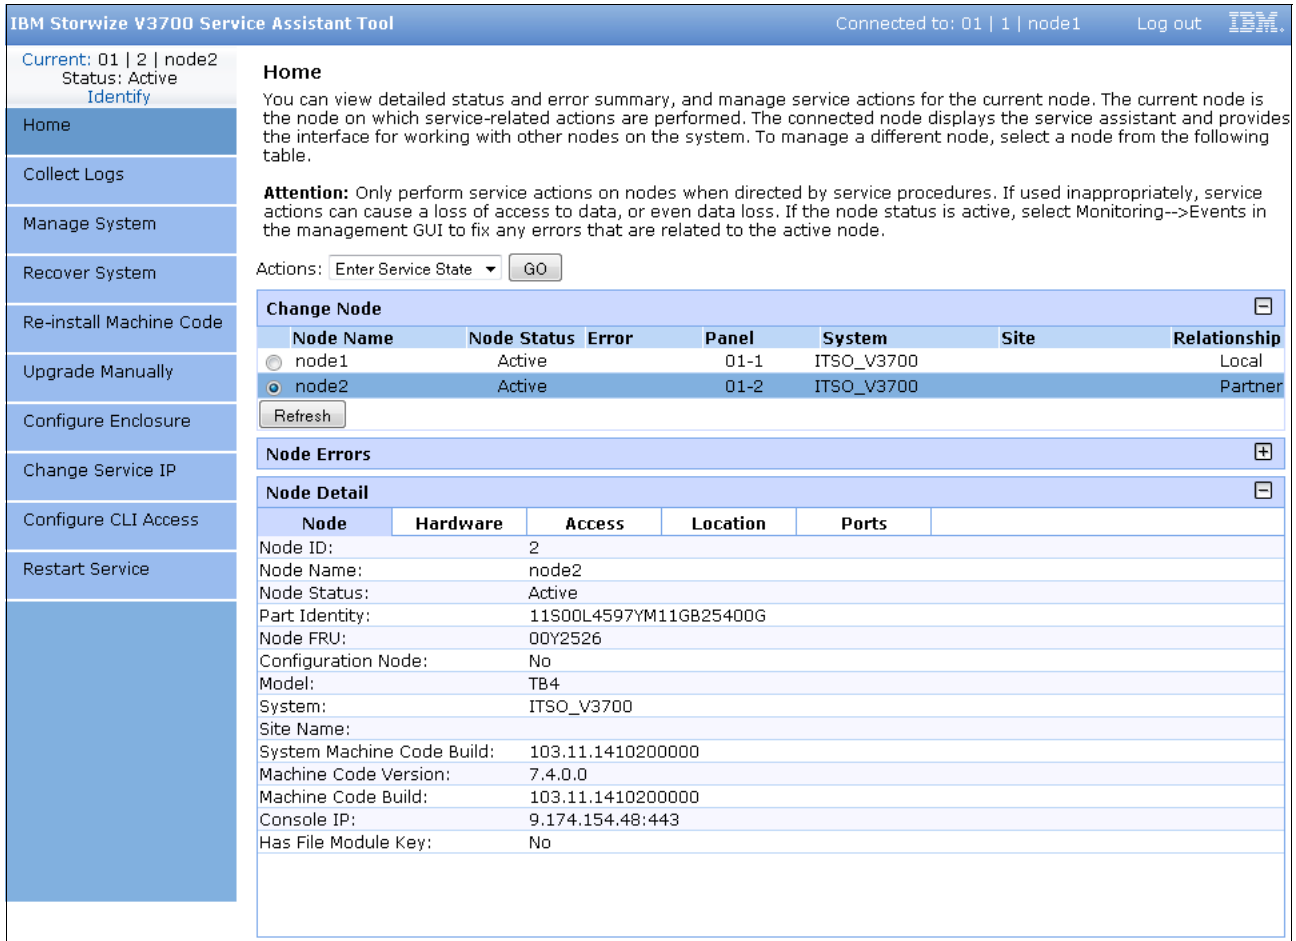

Figure 2-48 Service Assistant Home window
- After you are logged in, you see the Service Assistant Home window, as shown in Figure 2-48. The SA interfaces can view the status of, and run service actions on, other nodes, in addition to the node where the user is connected.
- The Current canister node is displayed in the upper left corner of the GUI. As shown in Figure 2-48, this is node 2. To change the canister, select the relevant node in the Change Node section of the window. You see the details in the upper left change to reflect the new canister.